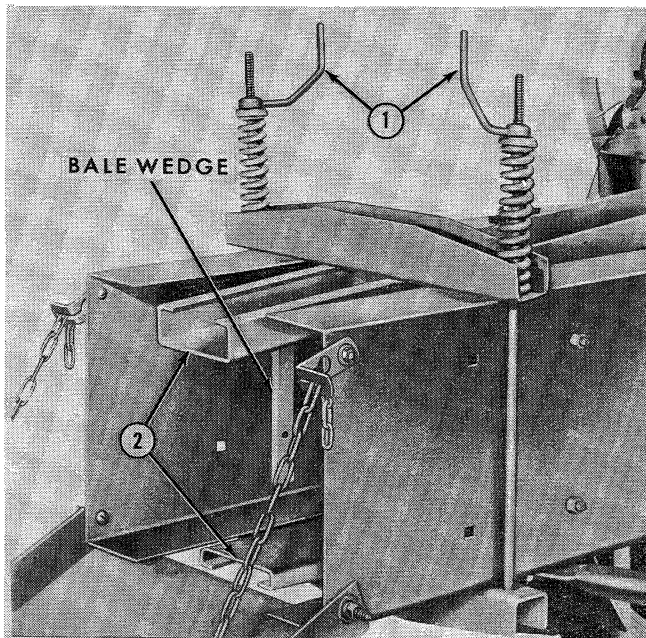

Figure 22
The Ford Hay Baler is equipped with spring-loaded bale tension bars (2), Figures 22 and 23, to control the density of the material in the bale, and consequently, the bale weight. Different crops and varying moisture content may make it necessary to use more or less tension. Generally, coarse or green material will require less tension, while dry or light material requires more tension.
Check bale density regularly during operation. Excessive density may result in twine breakage. The density of bales is controlled by adjusting the bale tension bar handles (1), Figures 22 and 23. When adjusting the bale tension, always adjust each handle the same number of turns.
Upon delivery of your baler, your Ford Tractor—Equipment Dealer provided you with one pair of bale wedges, a feed baffle and three hay deflectors as standard equipment. The bale wedges may be necessary to obtain desired bale density in dry, slippery or short crop conditions. As many as three pair of bale wedges may be installed in the bale chamber. Holes are provided in the rear of the bale chamber, Figures 22